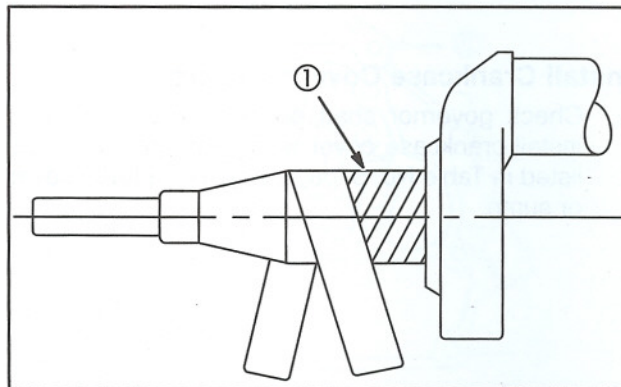

Fig. 9
Polish crankshaft with crocus cloth until polish lines (1) are uniform over entire journal. Direction of polish lines must be as shown in Fig. 9.